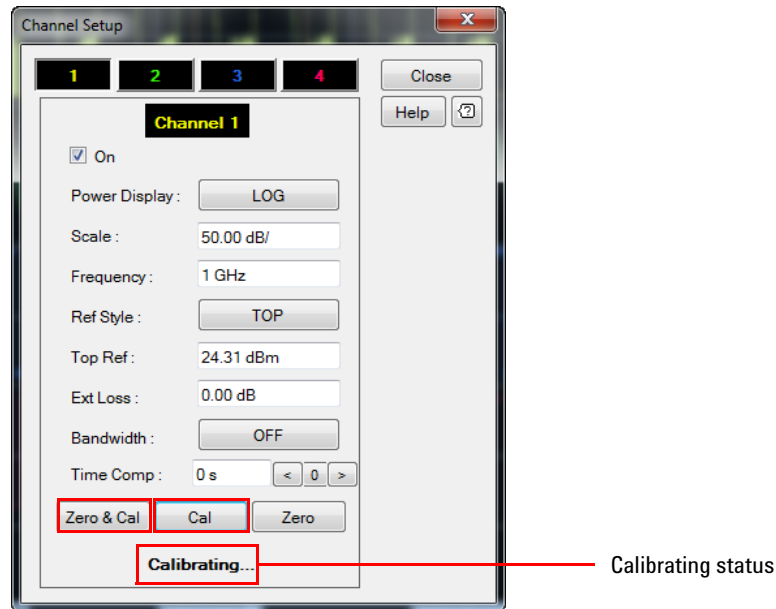

Figure 2-134 Cal and Zero & Cal buttons on the Channel Setup dialog
- 4 The 8990B also allows you to manually perform calibration of the sensor from the Channel Setup dialog as shown in Figure 2-134.
- 5 You can also perform zeroing and calibration of the sensor with the **Zero & Cal** button as shown in Figure 2-134. Refer to “Accessing the Channel Setup” on page 31 for more information on the Channel Setup dialog.